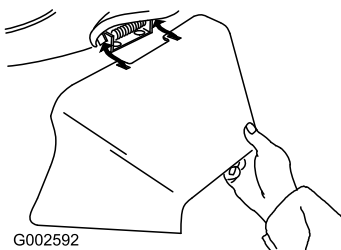

Figure 31
3. Install the side discharge chute and close the door onto the chute (Figure 31).